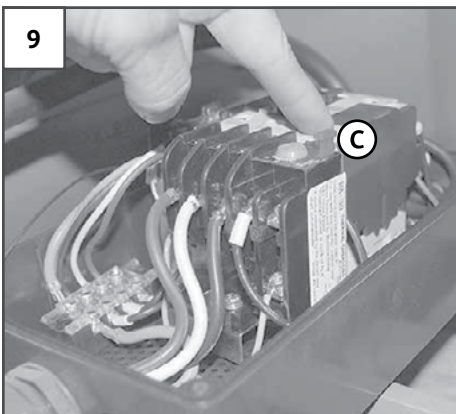

FIGURE 9: RESETTING OVERLOAD SWITCH
3. Press the **BUTTON (C)** to reset the overload protection. See Figure 9.